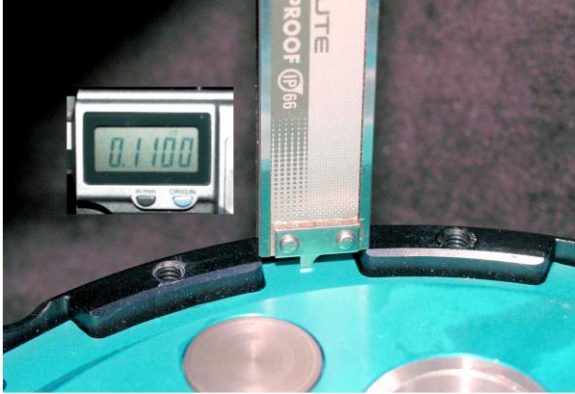

Fig. 3
- C. Replace the hardened steel spacer that goes between the face of the clutch basket and the inner hub with the three (3) piece needle bearing spacer supplied with your unit. **Make sure the needle bearing faces the clutch basket and the large thrust washer contacts the inner hub.** Install the Gen II modified inner stock hub. Tighten the locking nut to the factory specification. Check to make sure you have the correct end play on your basket after tightening. If you don't have .003 to .006'' end play clearance, the inner hub will not rotate when the nut on the input shaft is tight. If the basket has too much end play, it could cause damage to the clutch or engine.
- F. Install the pressure plate and hat assembly as one piece on top of the last fiber. Because the basket sits behind the wall of the cases, the assembly must be rotated so the flats on the hat assembly clear the side of the cases and inserted into the basket at an angle. Check to make sure the hat clears the threaded boss on the case (See Fig.1 & 2). If it does not clear, grind the back side of the thread boss until it clears the hat. **Make sure the cover screw that goes into that boss is shorter than the length of the boss or it will hit the clutch hat.** The height from the top of the tang on the pressure plate to the top of the basket should be between 0.110"-0.120" (See Fig.3). Apply hand pressure to the extended puller, while measuring, to make sure the plate is tight against the fiber. This will give you an air gap below your arms to the buttons between 0.110"-0.120". On the GS1100/1150 Gen II this can be checked after the hat and pressure plate is installed due to the open side flats in the hat.